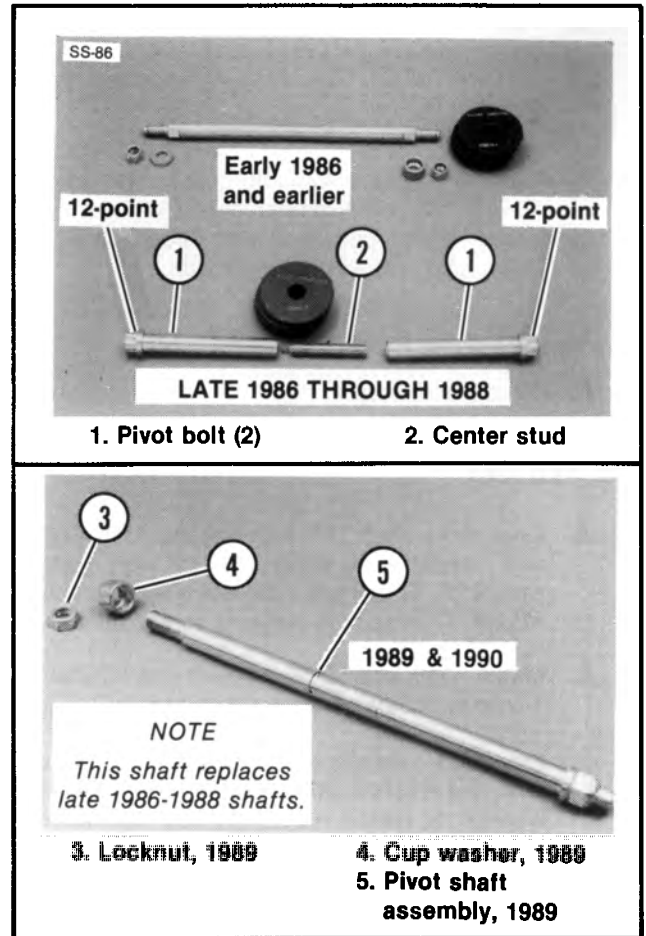

Figure 7-30. Rear Fork Pivot Shafts Comparison
3. See Figure 7-30. Note the difference between early 1986 and earlier, late 1986 through 1988 and 1989 and later pivot shafts. See Figure 2-78 in Section 2. Assemble pivot shaft as follows: